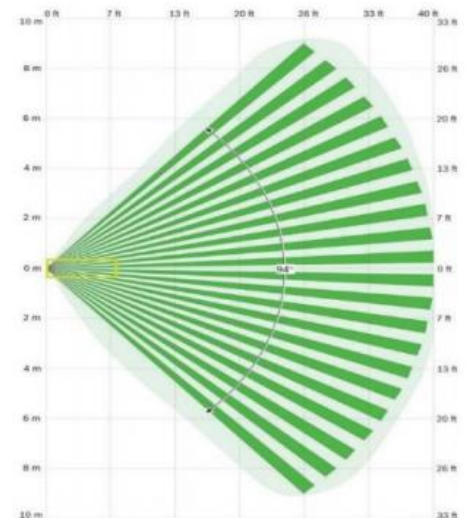

Figure 1
- 4) Using the quick thumb release lever, release the sensor and stand it upright (Figure 1).